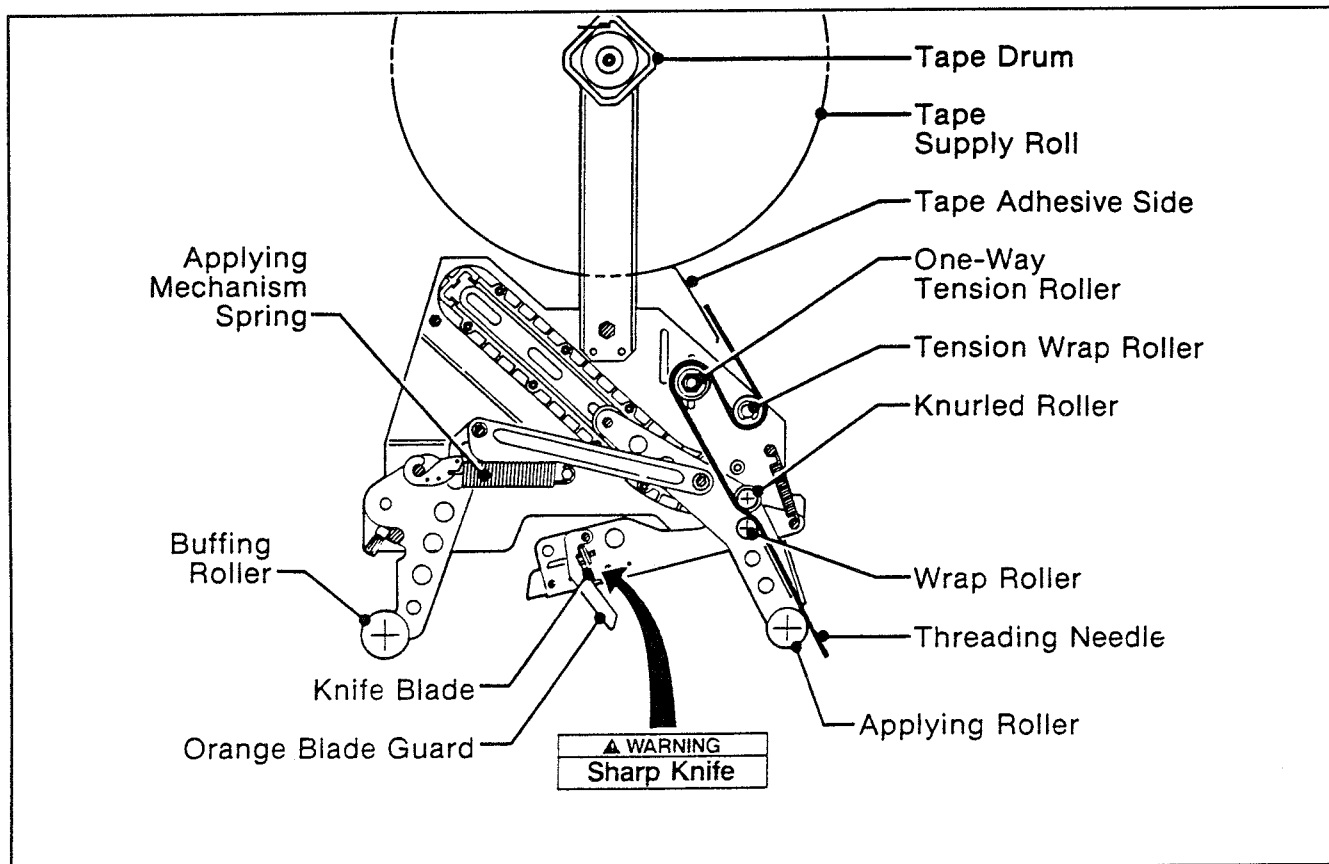
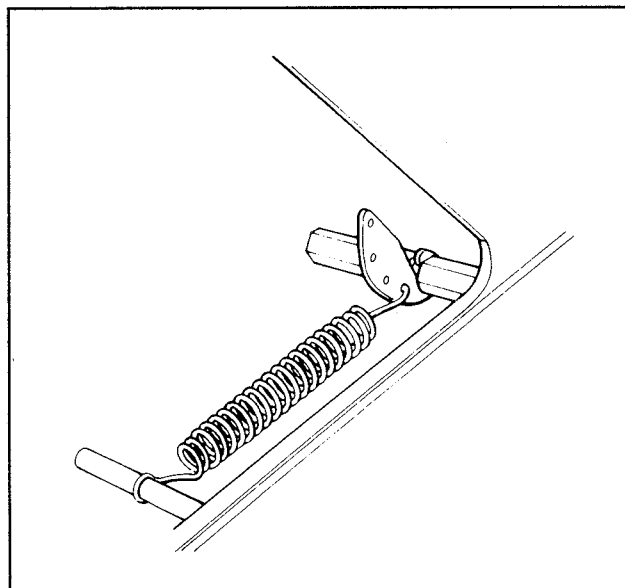

Figure 3 - Tape Threading Diagram - Top Taping Head - Left Side View
Figure 12
1. BOTH THE TOP AND BOTTOM TAPING HEADS UTILIZE EXTREMELY SHARP KNIFE BLADES ON THE ORANGE CUTTER LEVER ASSEMBLY AND WHICH ARE LOCATED UNDER THE BLADE GUARD WHICH HAS THE "WARNING - SHARP KNIFE" LABEL. BEFORE WORKING WITH THE TAPING HEADS OR ATTEMPTING TO LOAD THE TAPE, REFER TO FIGURES 3 AND 3A AND IDENTIFY THE BLADE LOCATION. KEEP HANDS OUT OF THESE AREAS EXCEPT AS NECESSARY TO SERVICE THE TAPING HEADS.
2. With the temporary threading needle already in position, as shown in Figure 3, follow the tape loading procedure from Figure 3C to complete the tape threading.
The applying mechanism spring, shown in Figures 3 and 3A, controls applying and buffing roller pressure on the box and returns the mechanism to the reset position. The spring pressure is pre-set, as shown in Figure 12, for normal operation but is adjustable.